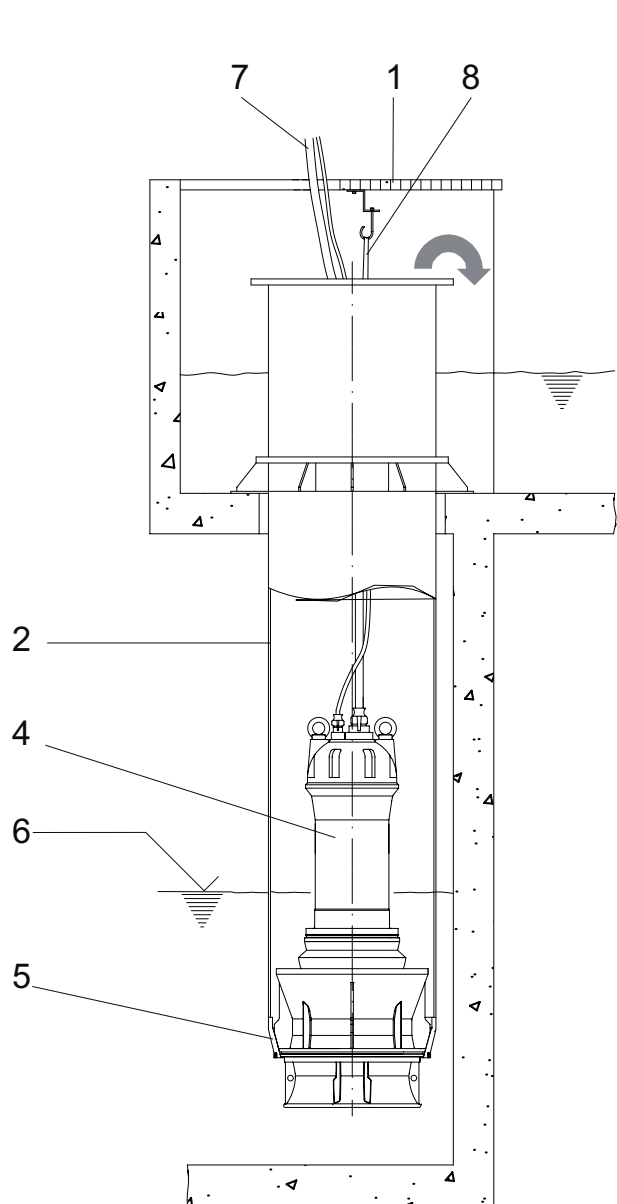

Figure 25 VUP/AFL in a steel discharge pipe
1. **Installation in a steel discharge pipe in accordance with *Figure 25***
The coupling ring required for installation of the AFL/VUP submersible pump must already be installed as shown in *Figure 25 and 26*. Before installation of the pump a suitable support (hook) for the chain, as well as an opening and suspension (cable sock) for the cable must be provided in the sump or riser pipe.